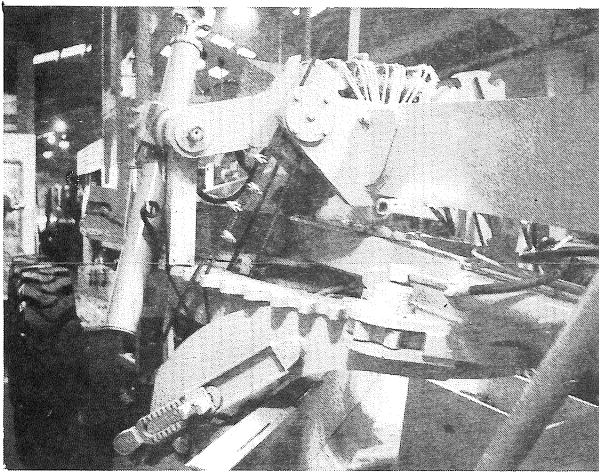

Figure 1
1. Blade lift cylinders disconnected from the drawbar, and inverted. Circle/drawbar/moldboard assembly supported by cables and blocks (Figs.1 and 2).